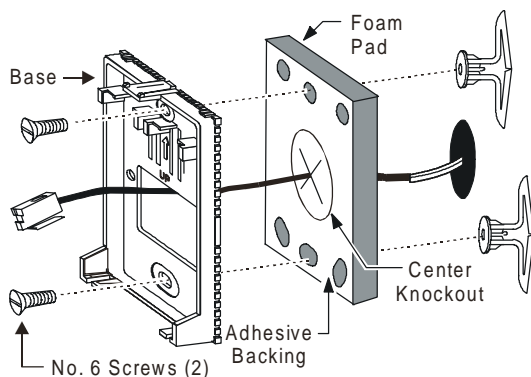

Figure 2: Surface Mounting for TM-9100, TE-7000, and AP-TMx1600 Sensors
2. Remove the adhesive backing from the foam pad. Align the holes in the pad with the screw holes in the base, and apply to the base. (See Figure 2.)